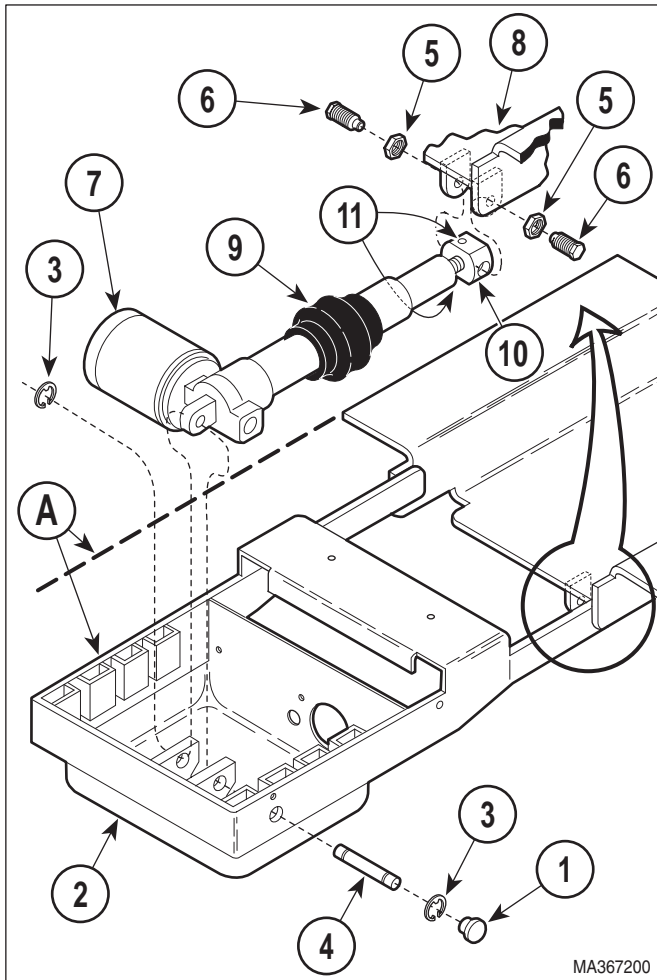

Figure 4-15. Foot Actuator Removal / Installation
- (9) Tag and disconnect two actuator wires (12) from terminals of foot capacitor (10).
- (10) Remove snap bushing (13) from foot capacitor cover (6).
- (11) Pull actuator wires (C) thru snap bushing (13).
- (12) Remove hole plug (1, Figure 4-15) from foot extension weldment (2).
- (13) Remove two e-rings (3) from clevis pin (4).
- (14) Using a hammer and punch, drive clevis pin (4) from foot extension weldment (2).
- (1) Install foot actuator bellows (9, Figure 4-15) on shaft of foot actuator (7).
- (2) Screw adjustable end mount (10) on shaft of foot actuator (7). Tighten two setscrews (11).
- (3) Position foot actuator (7) in foot extension weldment (2).
- (4) Secure foot actuator (7) to foot extension weldment (2) with clevis pin (4) and two e-rings (3).
- (5) Seat the foot actuator bellows (9) in foot extension weldment (2) properly.
- (6) Install hole plug (1) in foot extension weldment (2).
- (8) Install snap bushing (13) in foot capacitor cover (6).
- (9) Connect two actuator wires (12) to terminals of foot capacitor (10).
- (10) Install cap (11) on foot capacitor (10).
- (11) Position bottom of foot capacitor (10) on capacitor mounting bracket (9) and then push the top of the capacitor inward. Using a screwdriver, force the tab (B) of the capacitor mounting bracket down over the catch (D) of cap (11). Make sure back capacitor is held firmly in place.
- (12) Connect foot actuator wire (8) to wire (7).
- (13) Install foot capacitor cover (6) on foot extension weldment (2) and secure with two screws (5).
- (14) Install front trim (4) on foot extension weldment (2) and secure with four screws (3).
- (15) Install two jam nuts (5, Figure 4-15) on two pivot screws (6) fully.
- (16) Connect foot actuator (7) to seat weldment (8) and secure with two pivot screws (6).
- (17) Plug table power cord into outlet receptacle.
- (18) Run FOOT UP function until the foot actuator (7) is fully extended (actuator can be heard free wheeling).
- (19) Observe. If foot extension weldment (2) is level (A) with seat weldment (8), go to step 23. If foot extension weldment (2) is not level (A) with seat weldment (8), go to step 20.